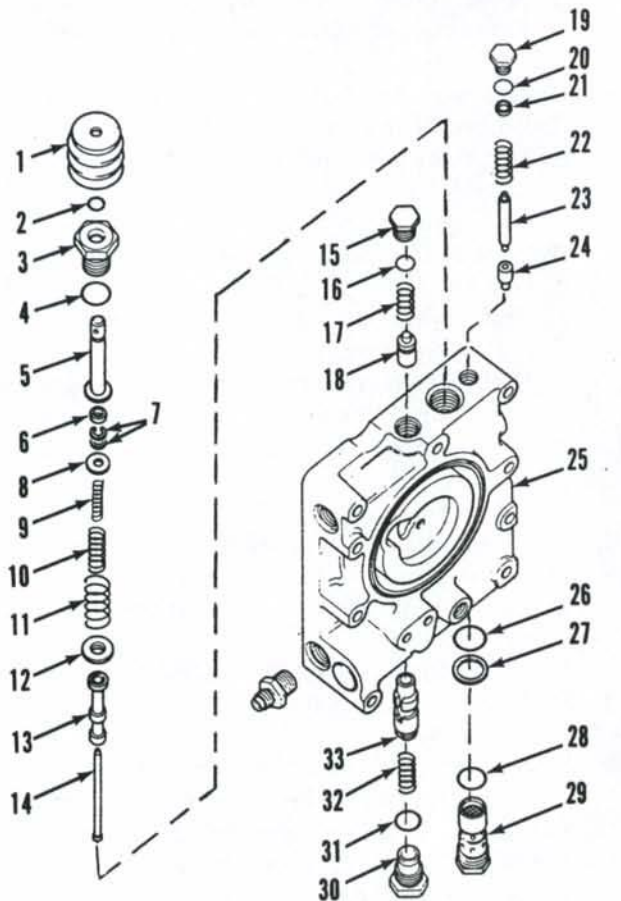

Fig. 155—Exploded view of multiple control valve assembly.
130. RELIEF VALVE AND FLOW DIVIDER. To check the pilot relief valve (29—Fig. 155) and flow divider (33), first remove plug (30), then remove spring (32) and spool (33). Reinstall plug (30). Remove pilot relief valve (29) and install a test pilot relief valve from test kit No. 399858R92. Disconnect the